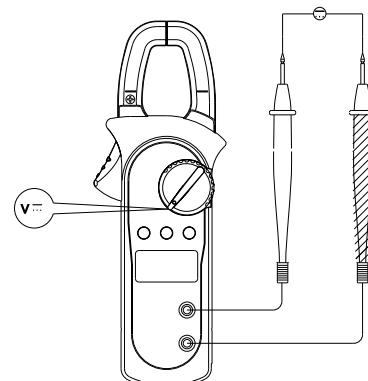

Figure 3
1. DC voltage measurement (V=) (shown in Figure 3)